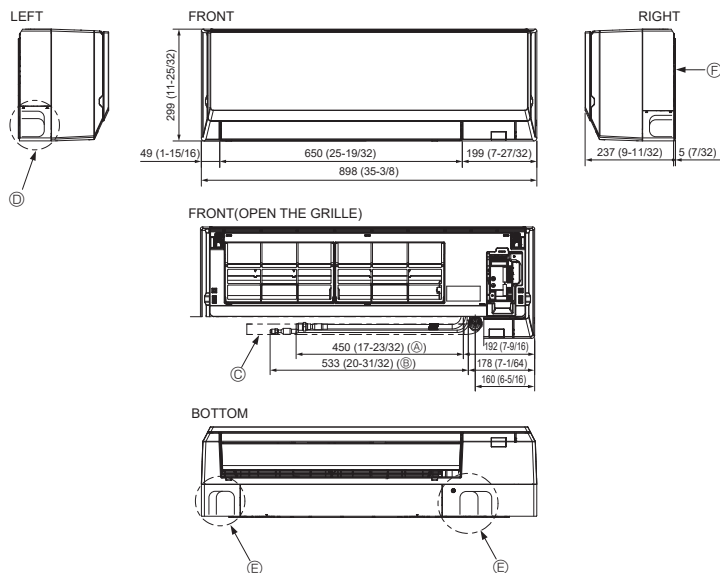

Fig. 4-2
4.2. Positioning refrigerant and drain piping (Fig. 4-2)
- ① Gas pipe
- ② Liquid pipe
- ③ Drain hose (Effective length: 500 mm, 19-11/16 in.)
- ④ Left-side piping knockout hole
- ⑤ Lower piping knockout hole
- ⑥ Mount board ①